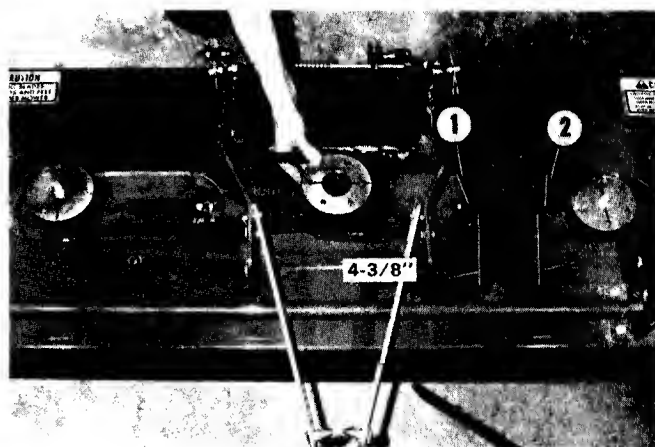

FIG. 10.1--REPLACING BELTS AND TIMING BLADES (48" SHOWN)
1. Remove belt covers and measure length of spring, Fig. 10.1. If measurement is not 4.38", adjustment is necessary.
4. Loosen nuts, Fig. 10.1, completely which will allow springs, to move spindles outboard to tension belts.
5. Tap spindle housing, Fig. 10.1, under mower base with a hammer to overcome any friction at mounting bolts.
4. Adjust nut on belt tension bolt until length of spring is 4-3/8", Fig. 10.1.